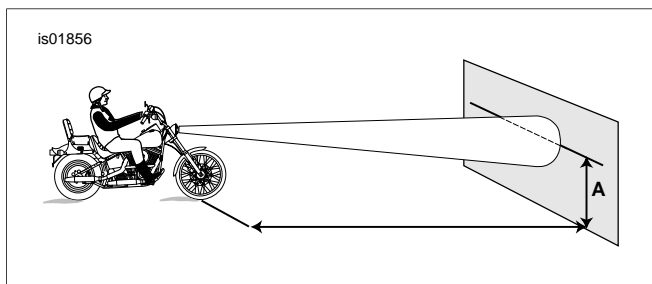

Figure 12. Headlamp Alignment
4. See Figure 12, Letter (A). Draw a horizontal line 35 inches (0.9 m) above floor on screen wall.